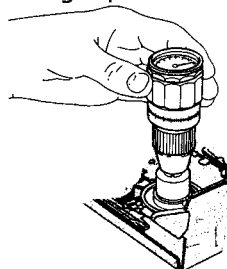

Fig. 3
- Place a torque meter part no. 3621027 with adaptor part no. 3014064 on the right reel (fig. 3).
- Cover the light prism (pos 95118T) for the tape end LED with e.g. black tape.